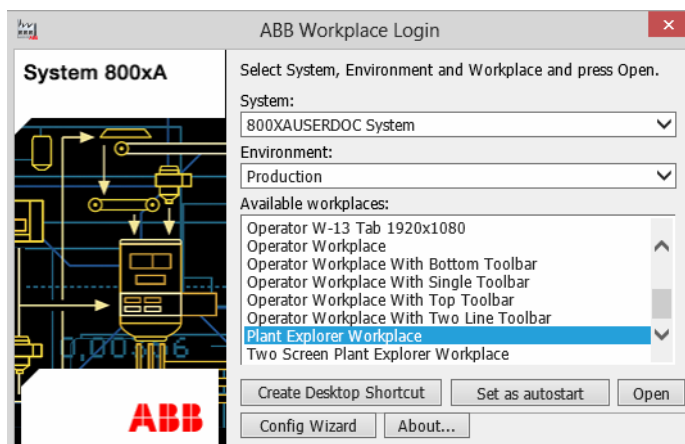

Figure 7. ABB Workplace Login Window
Select **Workplace** from the **ABB Start Menu**. This opens the **ABB Workplace Login** dialog as shown in Figure 7.
4. Click **Set as autostart** as shown in Figure 7